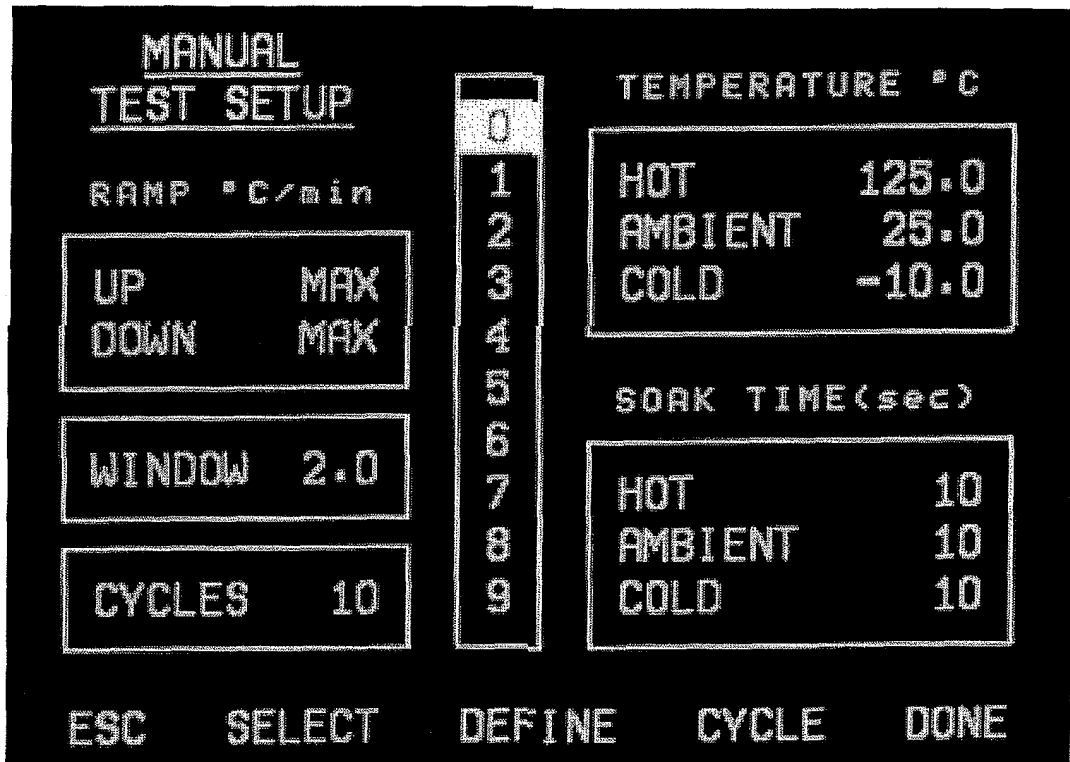

Figure 6-1 Manual Test Setup Screen
SETUP: This selection accesses the *Manual Test Setup Screen* (see Figure 6-1, on page 23) where the operator can change setpoint values, change/select Test Setup programs, and initiate Ramp/Cycle routines. Select CYCLE on the *Manual Test Setup Screen* to begin temperature cycling and return to the *Manual Operation Screen*. While the system is temperature cycling, the menu label on the *Manual Operation Screen* located above the Program Button changes from "SETUP" to "STOP". By selecting the STOP button the operator can cease air flow and stop temperature cycling.
The *Manual Test Setup Screen* (see Figure 6-1, above) is used to view, select, change and run up to nine (9) Test Setup programs stored in system memory and used on the *Manual Operation Screen*.
The function selections at the bottom of the display screen in Figure 6-1 are summarized as follows.